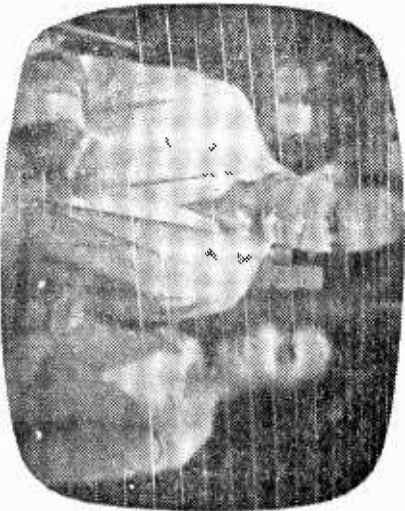

Fig. 11.—Excessive brightness results in the flyback lines showing on the picture (see paragraph 7 on page 10).
7. Flyback lines showing on picture. Reduce the brightness and if lines persist, the vertical hold is not operating, even if the picture is stationary (usually it will be jittering or "bouncing"). Re-adjust the frame hold control. An excessively powerful signal may also cause this effect and therefore try reducing the contrast. (See Fig. 11).
9. Poor contrast. A washed-out picture with fly-back lines showing indicates poor contrast and re-adjustment of the contrast control may be the simple solution. If this has no effect, check the aerial plug to make sure that it is correctly inserted. In fringe areas wait to see if the signal returns. Also make sure that the correct channel is selected. (See Fig. 11).